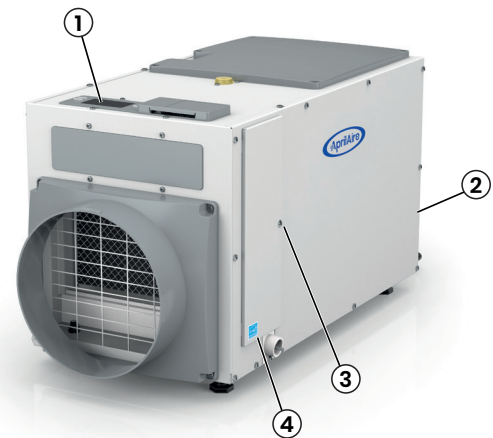

Figure 1: Exterior Components of the Dehumidifier
- Loosen the retaining screw on the filter access door (*see Figure 1*) from the drain side of the dehumidifier until it releases and then remove the filter door.